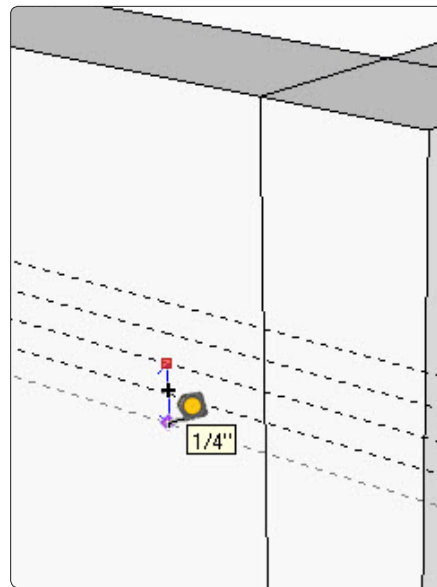

Figure 21. Place a series of guide lines to define the basic pin shape.
Step 4 Use the Tape Measure Tool to place guide lines that outline the pin size. I like to have pin widths that fit my chisel sizes, so I've chosen to make the throat of the pin $\frac{1}{4}$ in. wide and the wide portion of the pin $\frac{1}{2}$ in. wide. That requires four guide lines in all: two that are $\frac{1}{8}$ in. on either side of the midpoint, and two that are $\frac{1}{4}$ in. on either side of the midpoint. Place these guide lines around the guide line near the top of the front component (Figure 21).